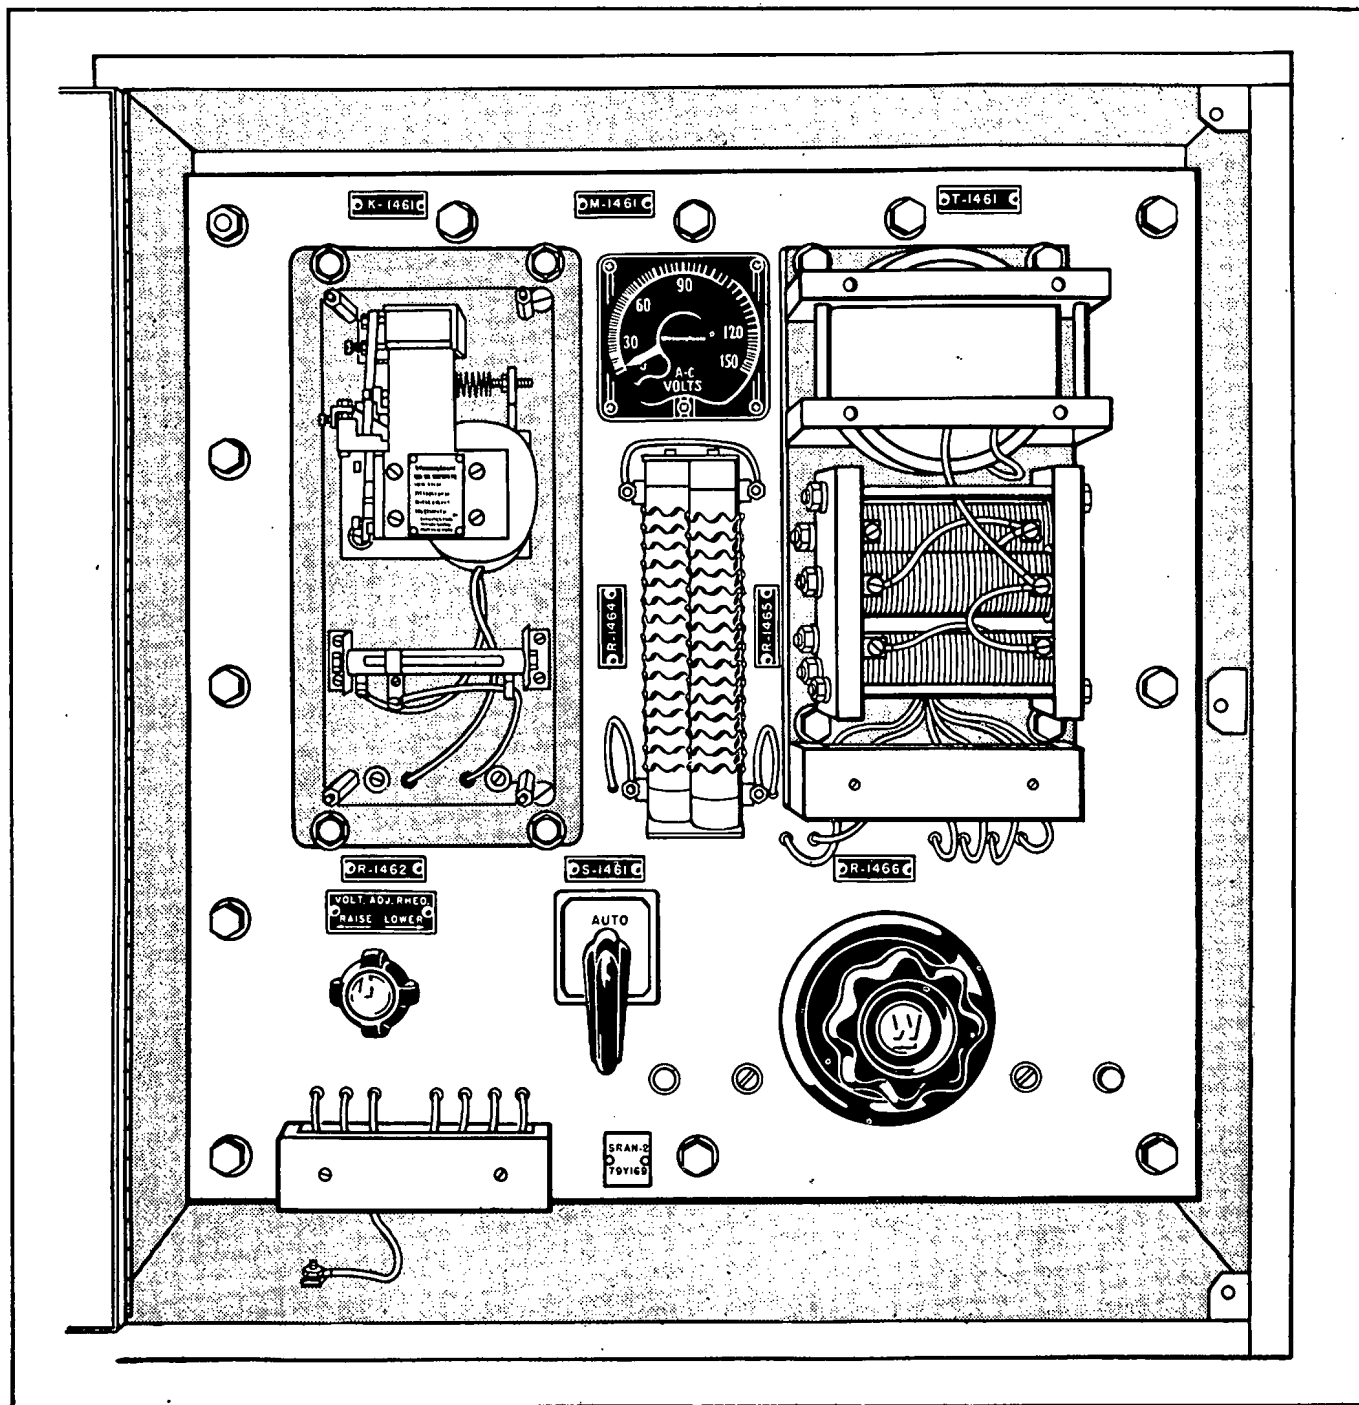

Figure 3-33. Voltage Regulator, Operating Controls
(5) Place the VOLT. ADJ. RHEO. control R-1462 in the center of its range.
(6) Remove the cover from the Silver Stat and adjust the tapped resistor R-1461 until the meter M-1461 indicates approximately 120 volts. Final adjustment is made with the VOLT ADJ. RHEO control. These adjustments are shown in Fig. 3-33.
(7) If switch S-1461 is in its MAN position, the voltage is adjusted with the large control for rheostat R-1466.